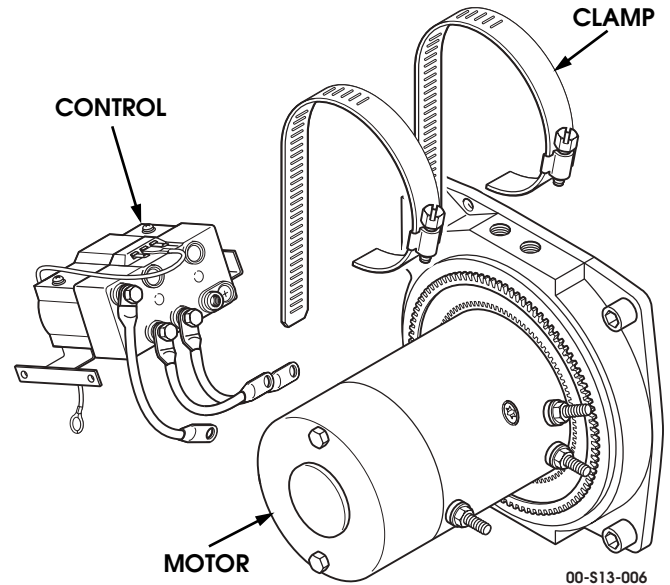

Figure 9-203: Control Unit and Motor
26. Secure control to motor with clamps (Figure 9-203).